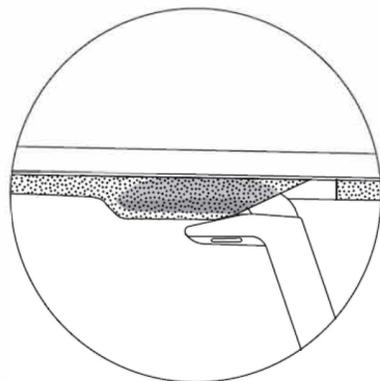

Figure 5: Proper placement of SION
- f. TM will accumulate in the trap and tissue collection window of the device. (Figure 5,6)